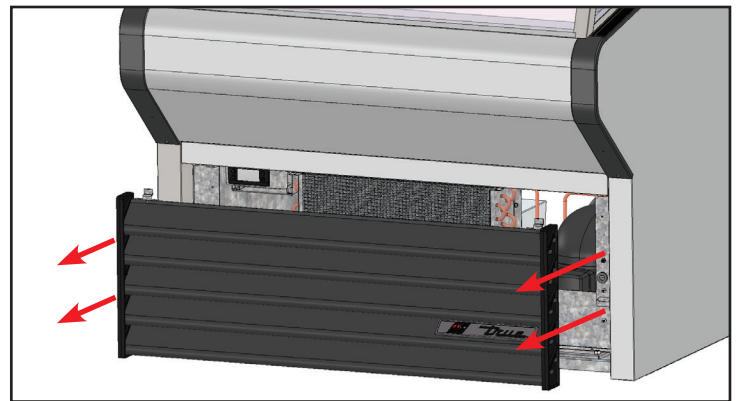

Fig. 2. Carefully remove the grill.
3. Pull on the grill assembly to release it from the magnetic brackets. See fig. 2.